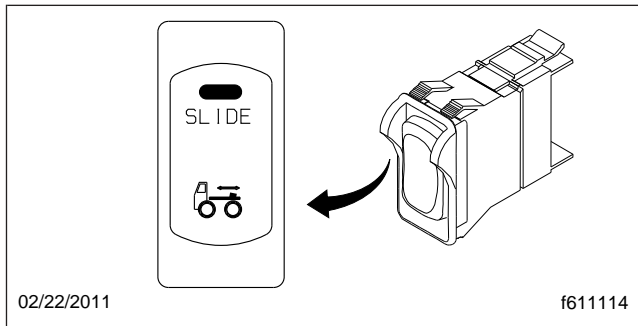
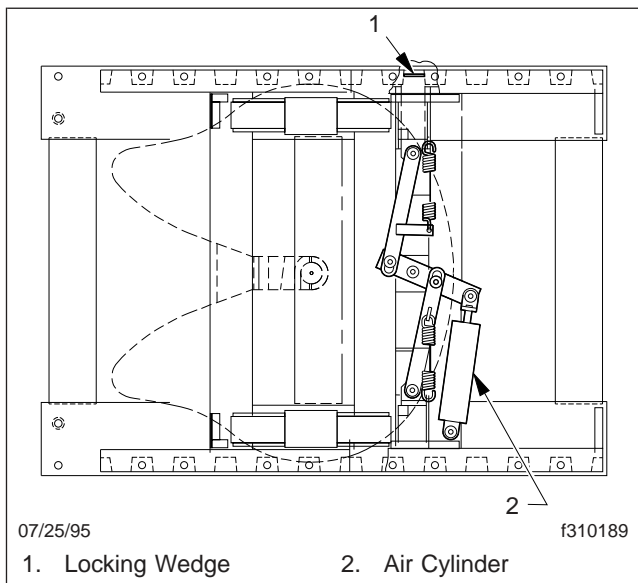
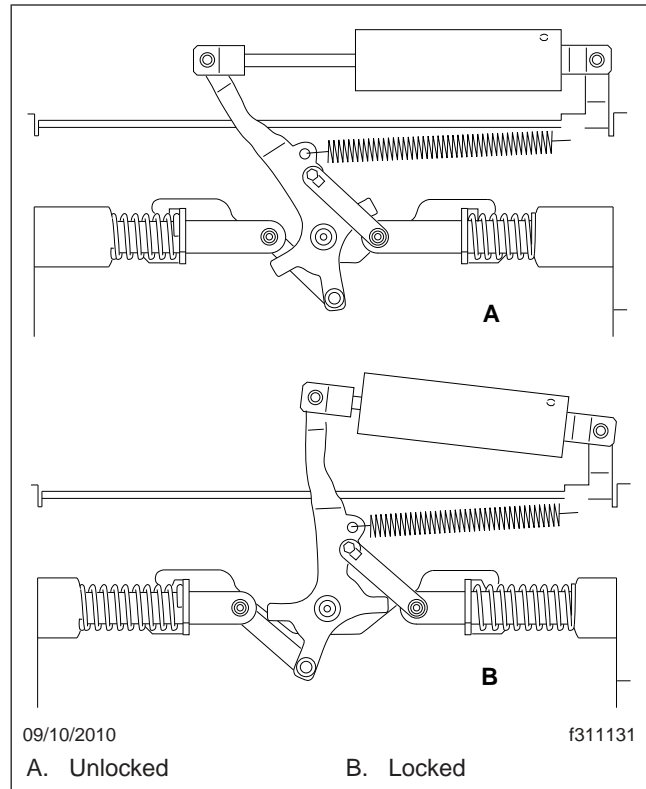

Fig. 17.14, Air-Slide Switch
Fig. 17.15, Air-Operated Sliding Fifth Wheel, Fontaine
Fig. 17.16, Jost Sliding Fifth Wheel
The slide feature may be operated with a dash-mounted air-slide switch that operates an air cylinder that locks and unlocks the slide. See **Fig. 17.14**.
1. Set the air-slide switch to SLIDE. See **Fig. 17.14**. Ensure the locking plungers have released. See **Fig. 17.15**. For Jost fifth wheels, the mechanism activates as shown in **Fig. 17.16**.